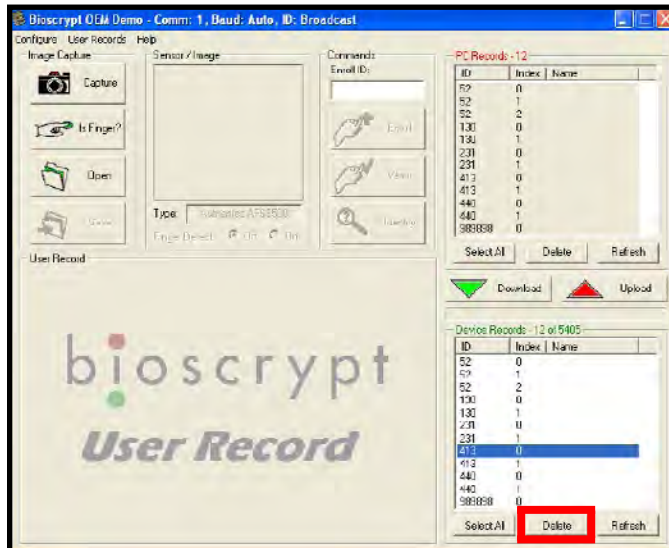

Figure 48. Bioscrypt, deleting templates from the Smart Clock
- II. Click the individual template files located under the “Device Records” section of the program, and click the “Delete” button to remove the template from the Smart Clock’s memory (see Figure 48).